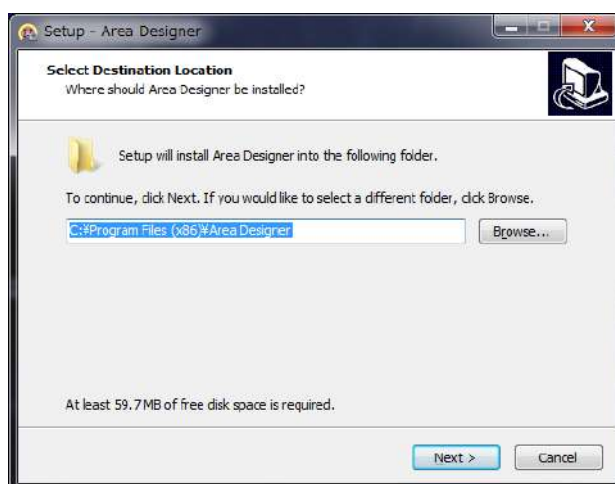

Figure 2-2 Specify the location for an installation
4. As shown in figure 2.2 click “next”, then select the component of “Area Designer”.